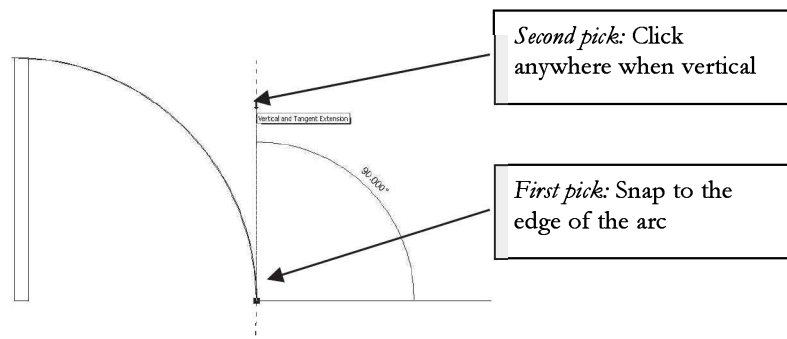

FIGURE 4-2.17 “Drawing” axis of reflection
71. Pick the two points shown in **Figure 4-2.17**.